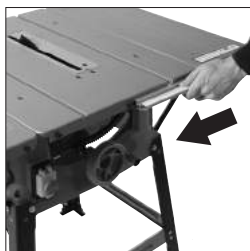

Fig. 12
- Slide the fence rail over the seven protruding bolt heads (**Fig. 12**) until the fence rail is central across the front of the machine and fully tighten the bolts.